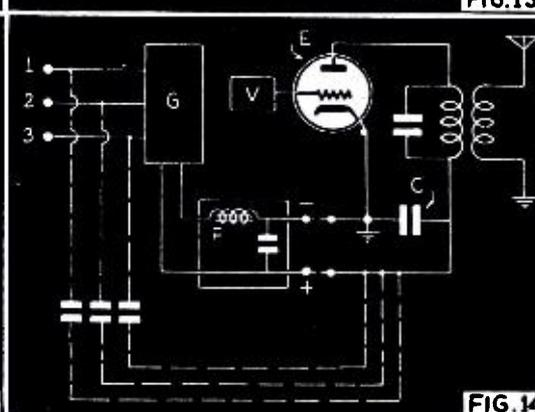

FIG. 14
*Fig. 14. Interference suppression in a radio transmitter. The 6-phase rectifier G connected with the power-line (1, 2, 3) supplies by means of the smoothing filter F the anode voltage for the final stage of the transmitter. The pre-stage V supplies the grid voltage for the end tube E. The connections of the supply mains are capacitatively coupled with the feed lines for the final stage, and along this connection intermediate and high-frequency interferences from the rectifier could enter the final stage. This is prevented by short-circuiting the feed line for high frequency close to the final stage with a condenser C.*
An unusual case of radio interference was encountered in the case of a broadcasting transmitter (Fig. 14). The final stage was fed with a 6-phase rectifier G for a voltage of 20,000 V. and a power of 60 kw., which was provided with 6 gas-filled rectifier tubes. The supply is from the 3-phase mains (power line) of 380 volts and 50 cycles. Per second therefore each tube carries 50 current impulses, so that the total number of current impulses is 300 per sec.
The interference spectrum given by the rectifier has a fundamental frequency of 50 cycles, since the 6 rectifier tubes are not exactly alike and it continues up to several hundred thousand cycles. By the smoothing filter F the low-frequency part of the interference spectrum is indeed cut off, but the intermediate and high-frequency part penetrates through the transformer of the rectifier installation into the supply mains. The mains cables are capacitatively coupled (shown by dotted line in Fig. 14) with the supply lines of the final stage, and therefore generate interference voltage between cathode and anode of the final tube E. In this way the part of the interference spectrum which is not of low frequency enters the final stage where it is modulated on the carrier wave and thus it is transmitted by the aerial.
In this case a satisfactory suppression of interference is achieved by short-circuiting the supply lines of the final stage for high frequency close to the transmitting tube by means of a condenser C as indicated in Fig. 14.